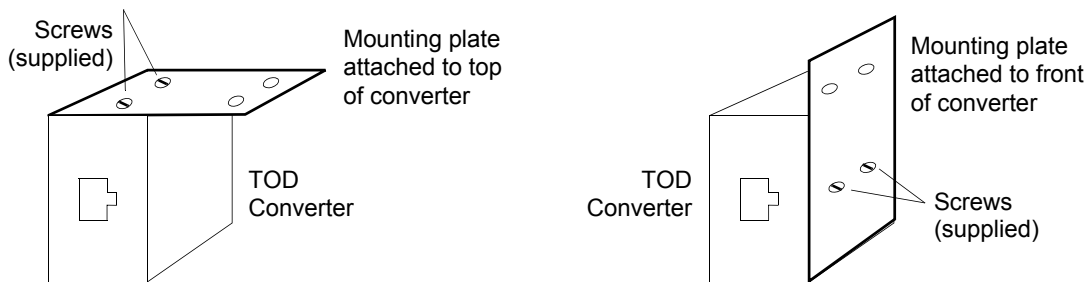

Figure 3-23. RS-422-to-RS-232 TOD Converter Mounting Plate
1. Secure the provided mounting plate to the RS-422-to-RS-232 TOD converter, using the two provided screws. The plate may be attached to the top or front of the converter, depending on the desired surface (for example, a rack or cabinet) to which the converter will be mounted (see Figure 3-23).